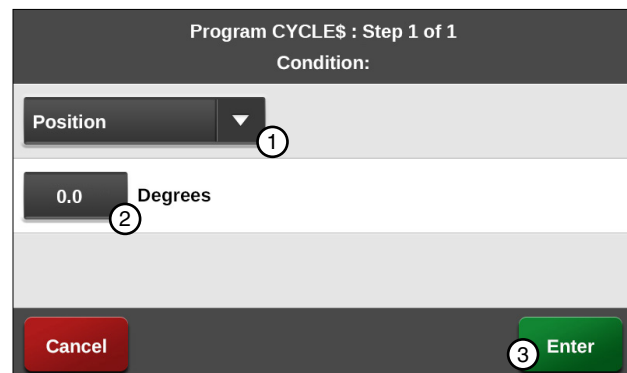

Figure 138-3 1. Position Command 3. Enter
4. Program the position condition for this step. Refer to Figure 138-3.